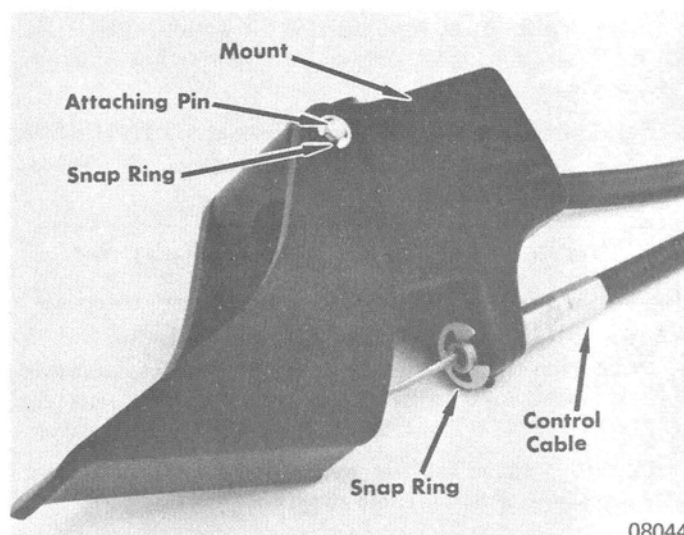

Figure 6. Control Lever
3. Remove snap ring from control cable (Figure 6) and remove cable assembly from mount.
2. Attach control lever to mount with attaching pin and secure with snap ring. (Figure 6)
3. Install cable in mount and secure with snap ring. (Figure 6)